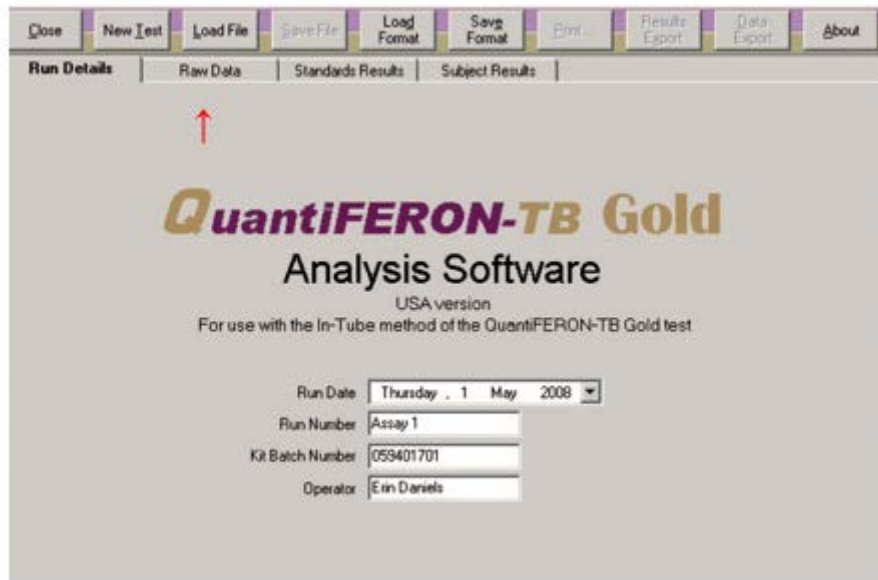

Figure 2
3) Select the Raw Data tab to advance to the next screen (see Figure 2 ↑).